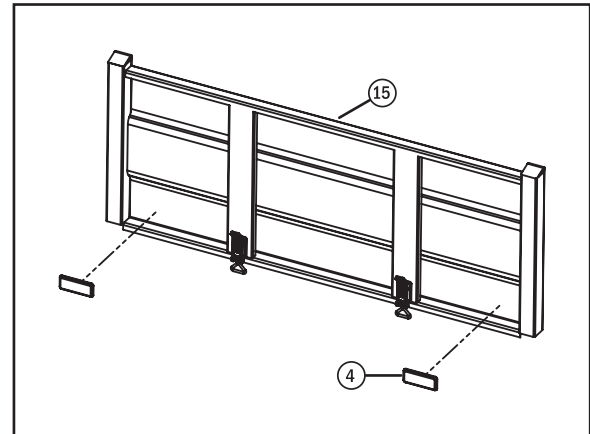

Fig. 17
Step 19: Install the Reflectors on the Tailgate. Install the reflectors on the tailgate as shown in Fig. 17, on the same side as the latches and approximately 1 in. (25 mm) from the bottom and 1 in. (25 mm) from the side bar. It's recommended to use rubbing alcohol to clean the spot where the reflector will be placed. On the back of the reflector, remove the backing on the adhesive. Place the reflector on the surface and press firmly.